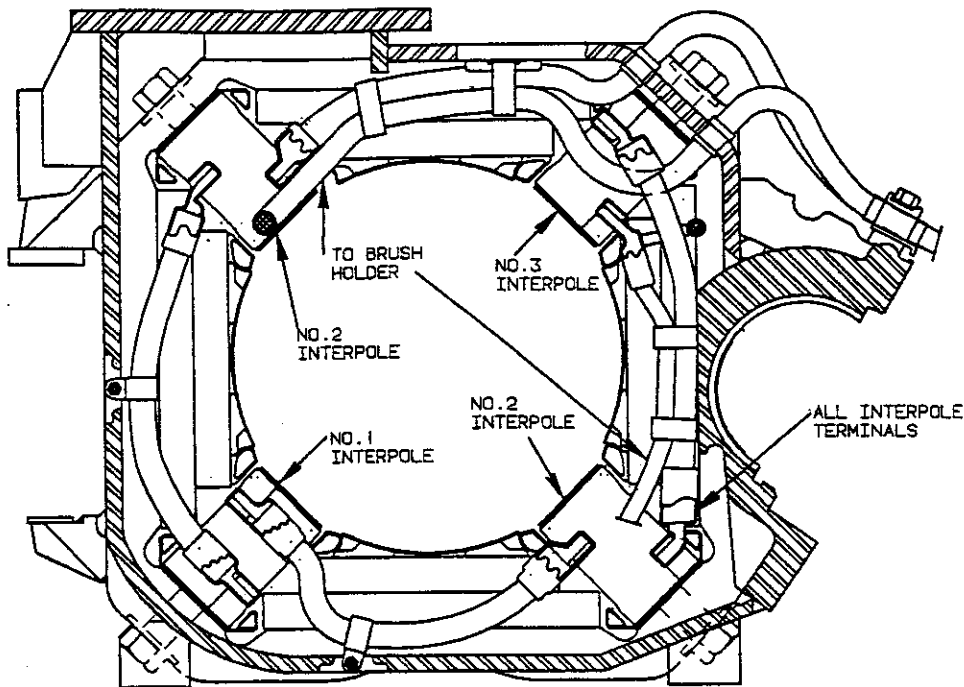

Fig. 24 - Interpole and Brush Holder Cabling
1. Wrap the "A" and "AA" leads with webbing and secure to "saddle" on the upper side of the frame with steel strap as shown in Section A-A of Fig. 24. Tighten and cut steel strap with a steel binder set. Lock strap with the strap seal and remove steel binder set. Wrap the steel strap with two layers of silicone rubber tape. Secure the silicone rubber tape with one layer of glass adhesive tape. Refer to Service Data for webbing, steel binder set, and tape part numbers.
2. Wrap the "A" and "AA" leads between the "saddle" and interpole No. 2 with webbing and secure together with steel strap and seal as shown in Fig. 24. Tighten steel strap, cut and insulate in the same manner as Step 1.